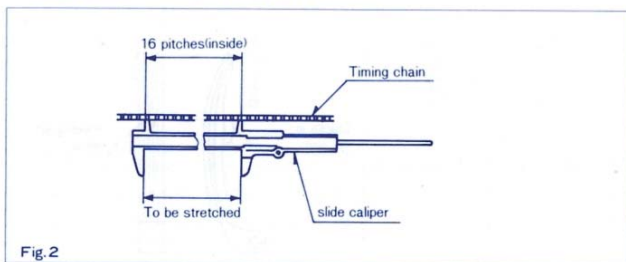

Fig.2
3. When the average length measured over 16 pitches, at any of the 3 places shown in Fig.2, is over 146.6mm.